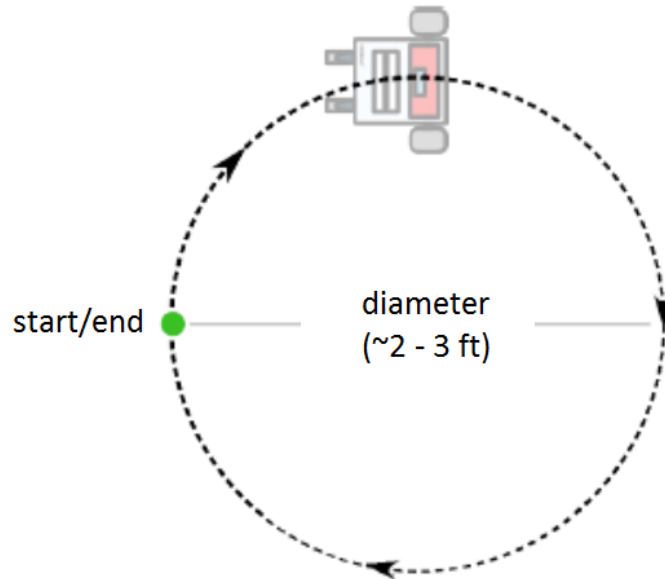

Figure 4: Circle Robot Motion
- Write a "Circle" program to move the robot in a circle with a diameter between 2 and 3 feet (see Figure 4).